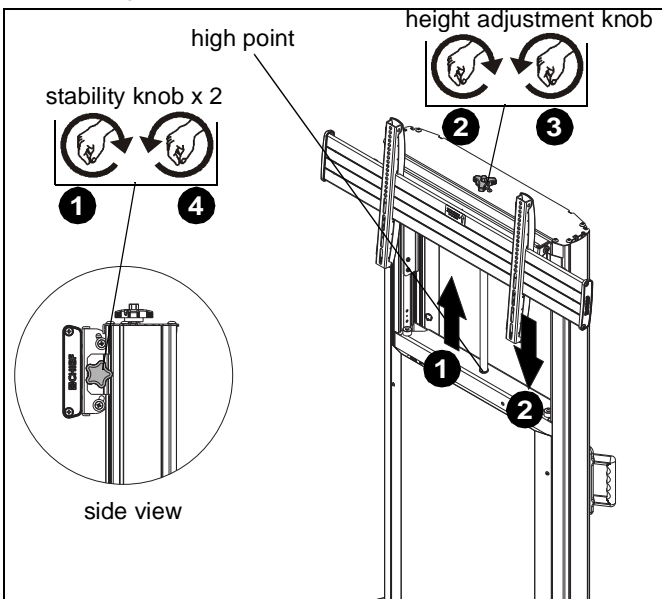

Figure 19
1. Loosen two stability knobs on either side of head assembly. (See Figure 19)
2. Turn height adjustment knob clockwise to raise display. (See Figure 19)
3. Turn height adjustment knob counterclockwise to lower display. (See Figure 19)
WARNING: Do not attempt to raise or lower the adjustment carriage beyond its upper or lower limit. High and low points are shown in Figures 19 and 20.
4. Tighten two stability knobs on either side of head assembly. (See Figure 19)